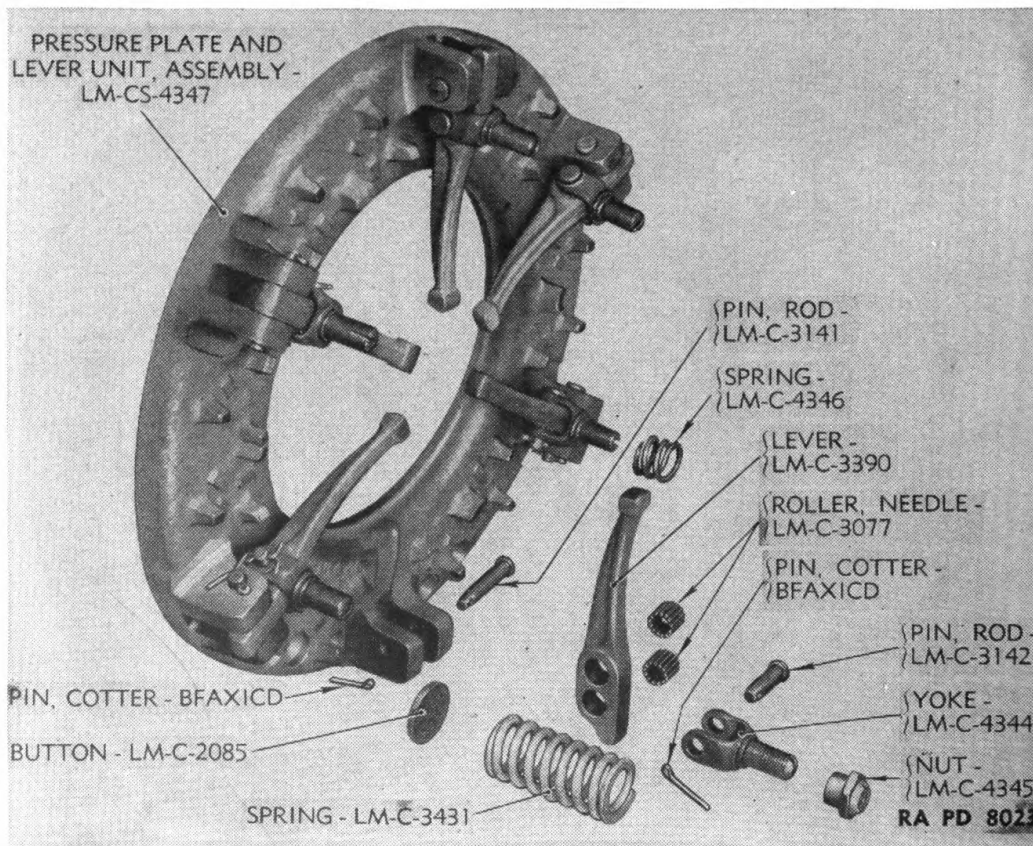

FIGURE 8.—Clutch pressure plate and lever unit assembly, exploded view.
- d. Dismantle pressure plate unit assembly (fig. 8).* Pliers.